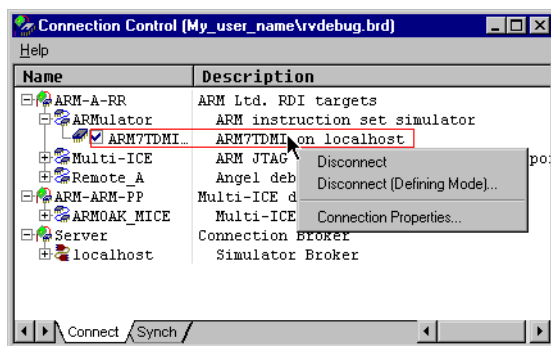

Figure 2-12 Disconnection menu
- right-click on a connection entry and select **Disconnect** from the **Disconnection** context menu, shown in Figure 2-12
- right-click on a connection entry and select **Disconnect (Defining Mode)...** from the **Disconnection** context menu, shown in Figure 2-12.
1. Right-click on a connection entry to display the **Disconnection** context menu, shown in Figure 2-12 on page 2-17.